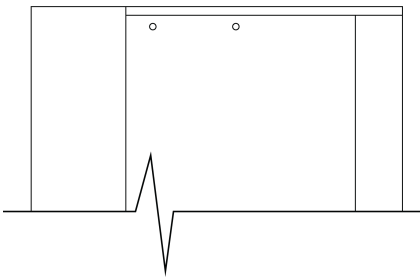

Fig 1. Water Filter Screws
- On the back of the cabinet are two protruding screws (Fig 1) that match two keyholes on the top of the filter housing (Fig 2). Fit and hang the filter pack from the protruding screws. Do not tighten the screws after fitting.